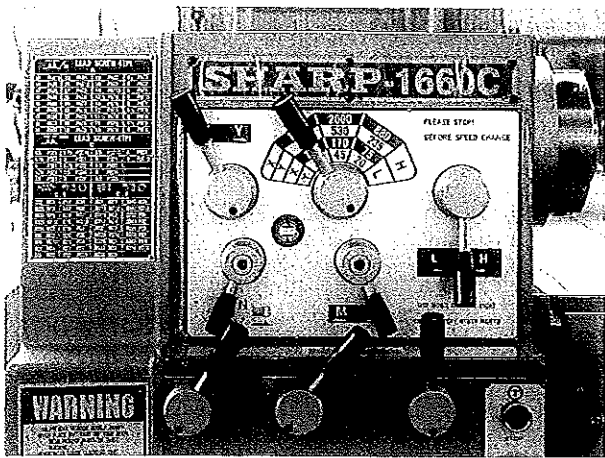

Figure 1
- b. If the problem is not in the spindle continue by engaging one control at a time until the problem is found. (**Figure 1**)